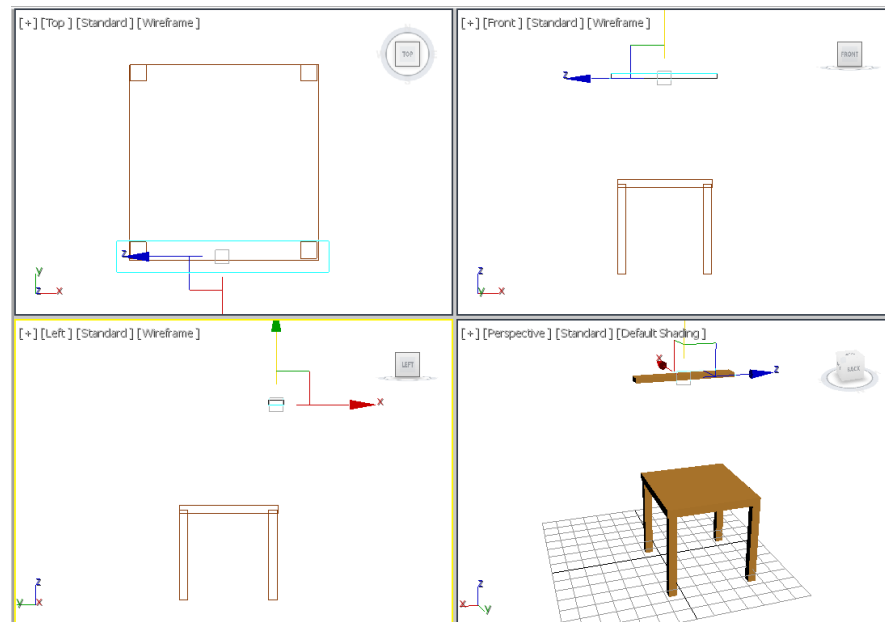

Figure 2-61 Alignment of back1 with base
10. Rename the created object as *back1*. Next, align it with *base*, refer to Figure 2-61.